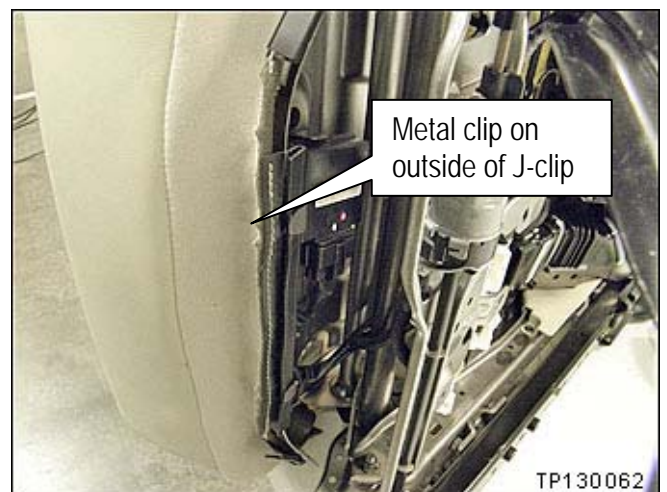

Figure 14
- The J-clips in Figure 14 have been released, showing the metal clips.